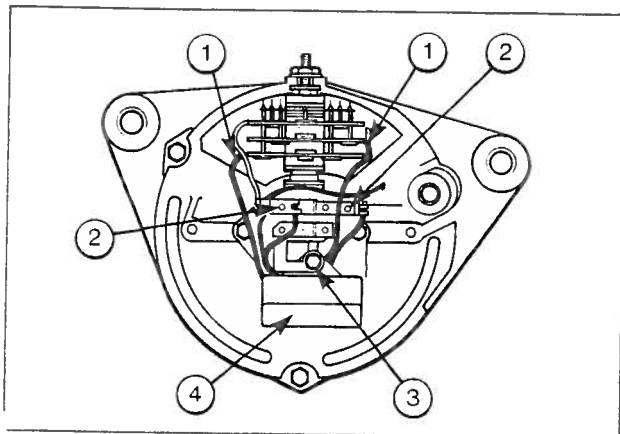

Fig. 37. Removing regulator
4. Make a note of the regulator leads terminations, then disconnect leads (1) from the rectifier. Remove screws (2) securing remaining two regulator leads. Remove screw (3) and detach regulator (4) – see Fig. 37.